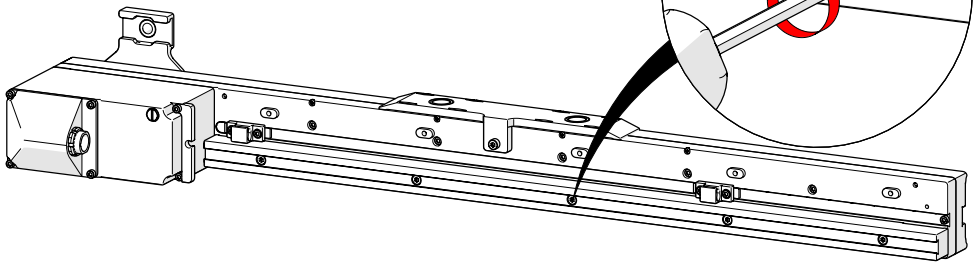

Fig. 144 - Remove raster arm mounting rail
2. Loosen all the captured screws from the raster arm mounting rail (Fig. 144).